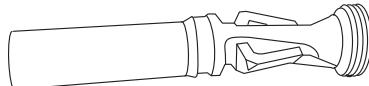

Figure 8
- Attach diaphragm to inner extension tube (see Figure 8).